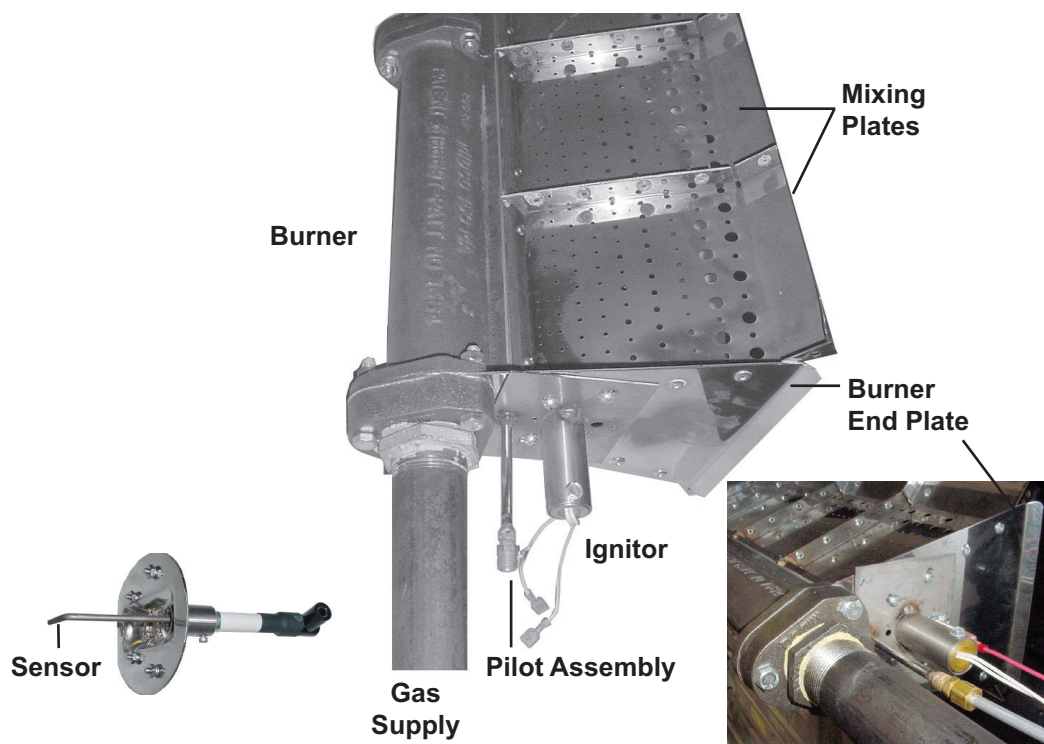

Figure 12. Burner Assembly—Units Manufactured *After* AUG 2003
- Burner components for units manufactured *after* AUG 2003 are listed in Table 20 and shown in Figure 12.